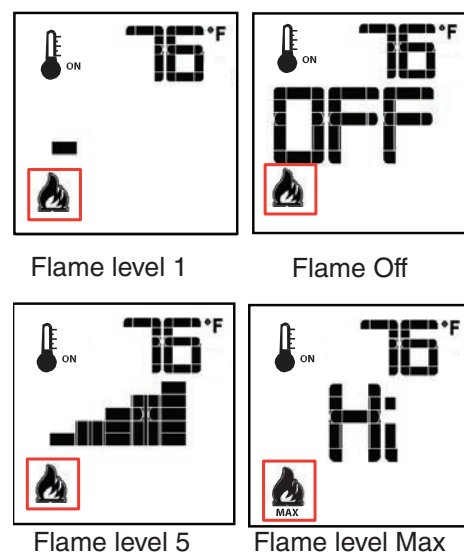

Fig. 67 Flame level control
The Proflame2 has six (6) flame levels. With the fireplace turned on, and the flame level at maximum height, press the down arrow key once (Fig. 67 Flame level 1) to reduce the flame height by one step until the flame is turned off.
The up arrow key will increase the flame height each time it is pressed. If the up arrow key is pressed while the fireplace is on but the flame is off, the flame will come on in the high position. (Fig. 67 - Flame level Max) A single “beep” will confirm reception of the command.